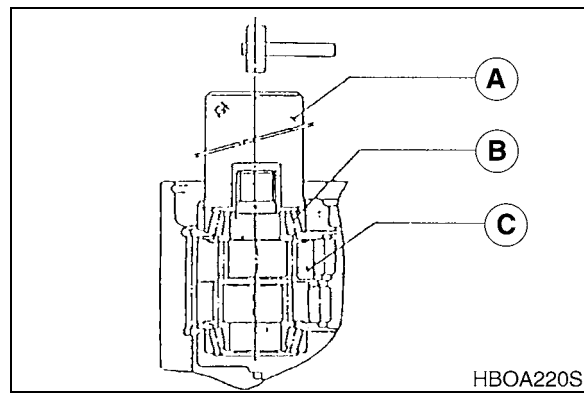

Figure 100
1. Tap lightly together with press metal fitting (A, Figure 100) and hammer, the outer wheel of conical roller bearing (B) (22) that is attached to crankshaft (9) of RV gear assembly (C).
2. Install the thinnest shim (13) into hold flange (3), assemble retaining ring (20) into retaining ring groove.
4. Measure clearance by inserting thickness gage between retaining ring (20) and shim (13).